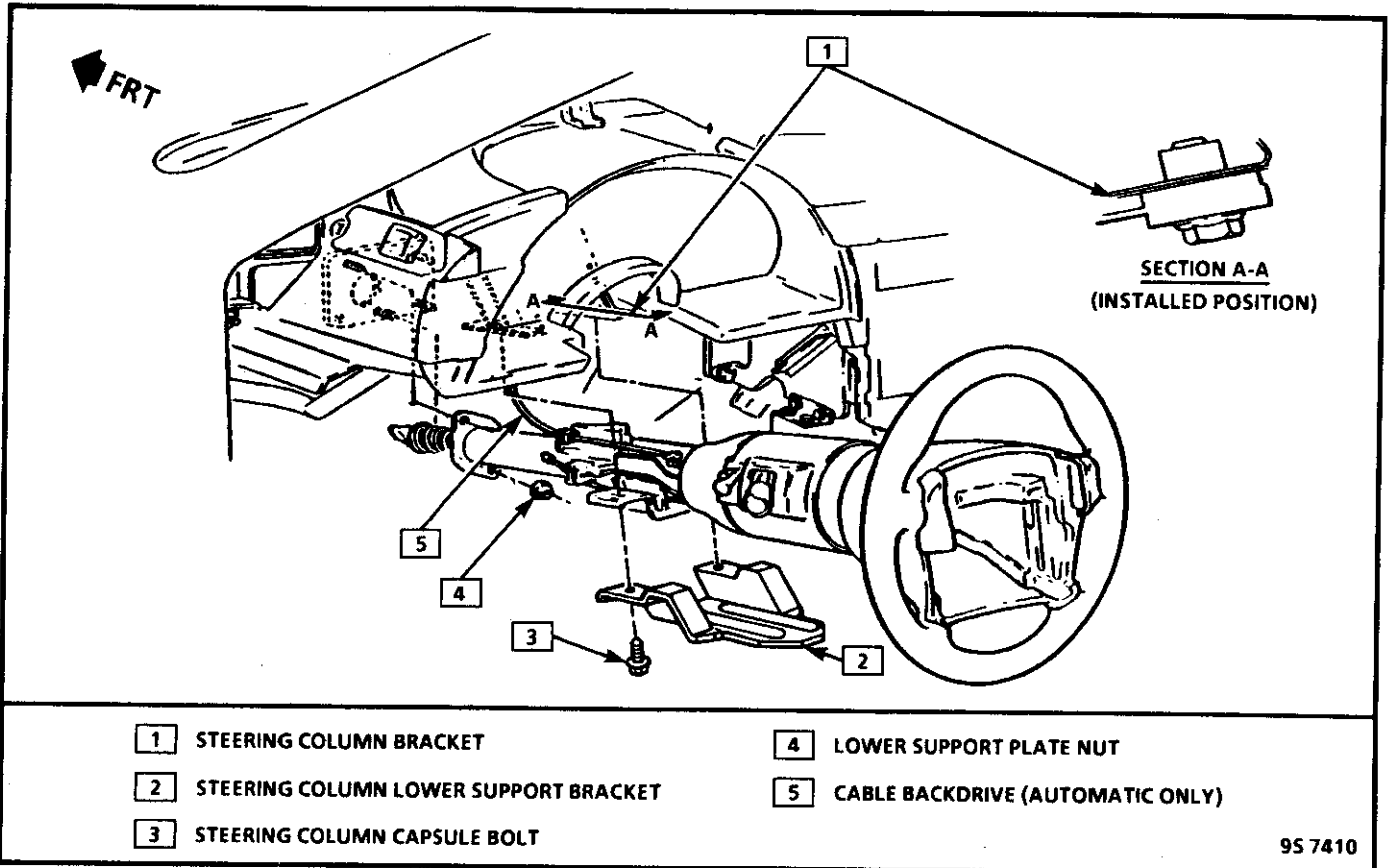

Figure 9 - Steering Column to Instrument Panel Reinforcement
6. Loosely attach steering column and upper support plate to instrument panel reinforcement assembly with capsule bolts and cable backdrive on automatic transmission vehicles (Figure 9).
7. Loosely attach steering column nuts to support plate studs (Figure 9).